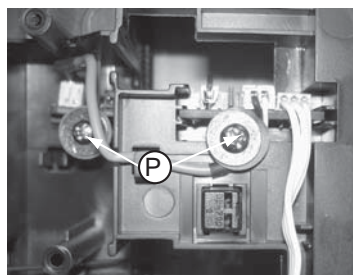

Figure 17
- 1) Loosen 2 screws "P" to remove stop sw+open sw board as shown in figure 17.